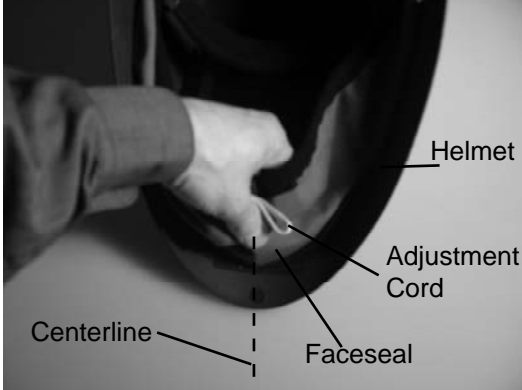

Figure 16
1. Line up the bottom seam of the Faceseal to the centerline of the Helmet (fig. 16)
2. Attach the Velcro together along the Faceseal Edge securing the Faceseal to the Helmet (fig. 16).